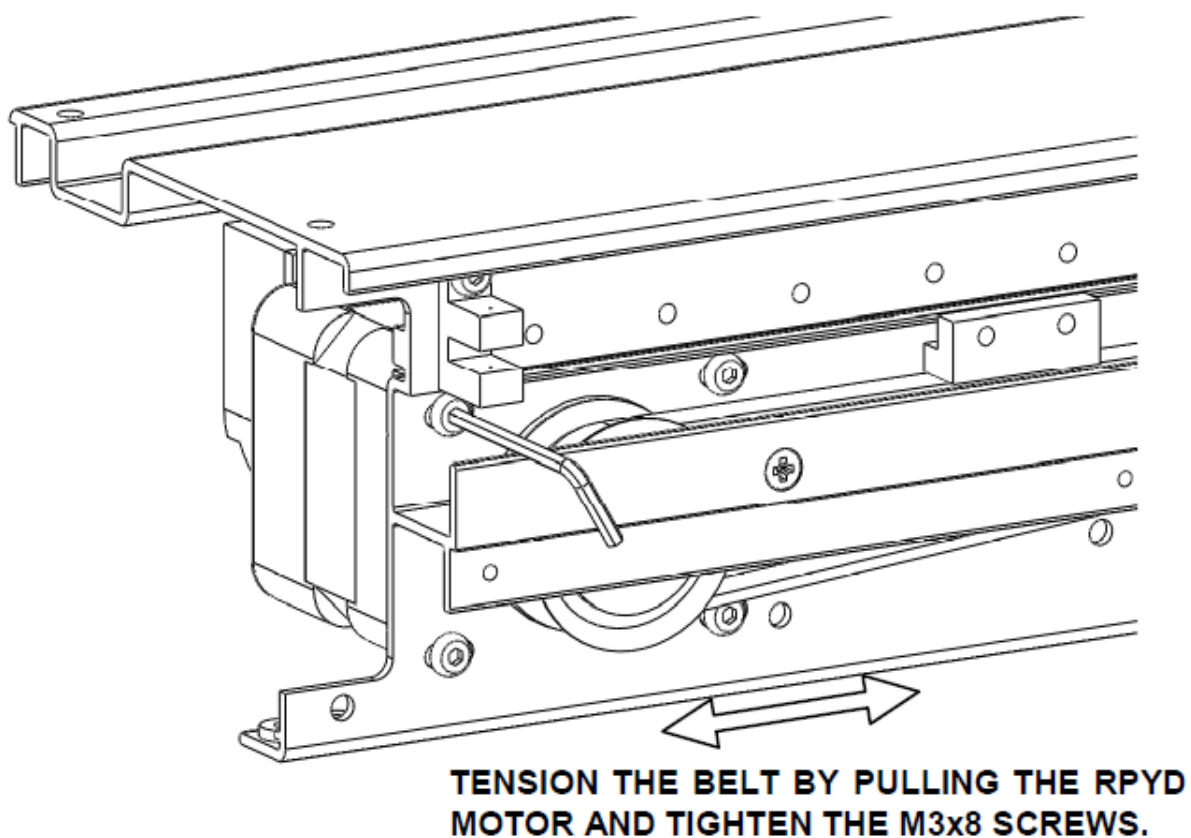

Figure P-6: Tightening the Belt
4. The required frequency is in the range 113-119 Hz. If the reading is above or below this range loosen the four M3x8 Socket Button Head Screws and move the motor in order to obtain the desired tension (Figure P-6).